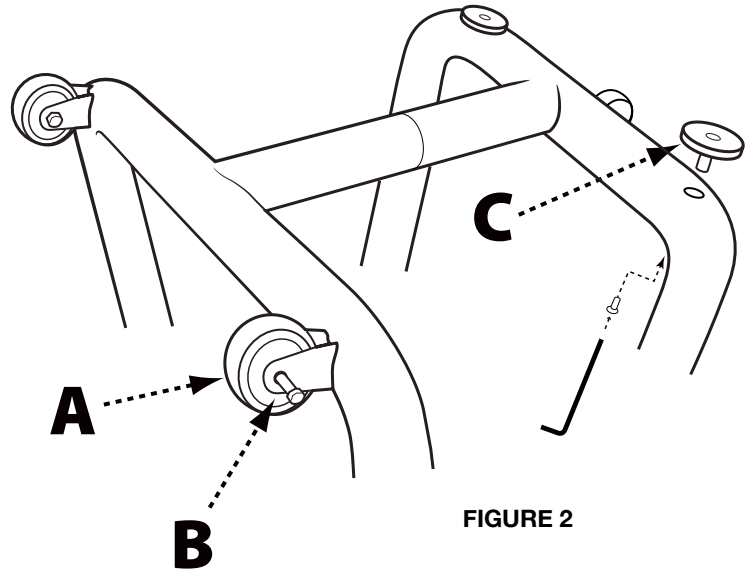
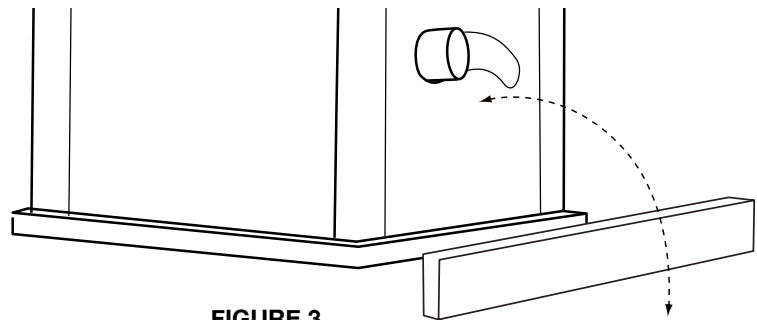

FIGURE 2
FIGURE 3
1. Attach the two fixed wheels (A) to the two left leg, opposite the pivot caster, using the carriage shoulder bolt as in Figure 2.
2. Screw the adjustable feet (C) into the threaded inserts in the right leg, next to the pivot caster.
3. Lay a scrap piece of 2x4 in back of the saw, as shown in Figure 3, to prevent damage to the dust chute when righting the saw.
5. The two adjustable feet (C) can be raised and lowered by rotating them. The feet may be adjusted to level the saw and locked in place with the locking set screws already assembled in the frame, using a 6mm allen hex wrench. See Figure 2.